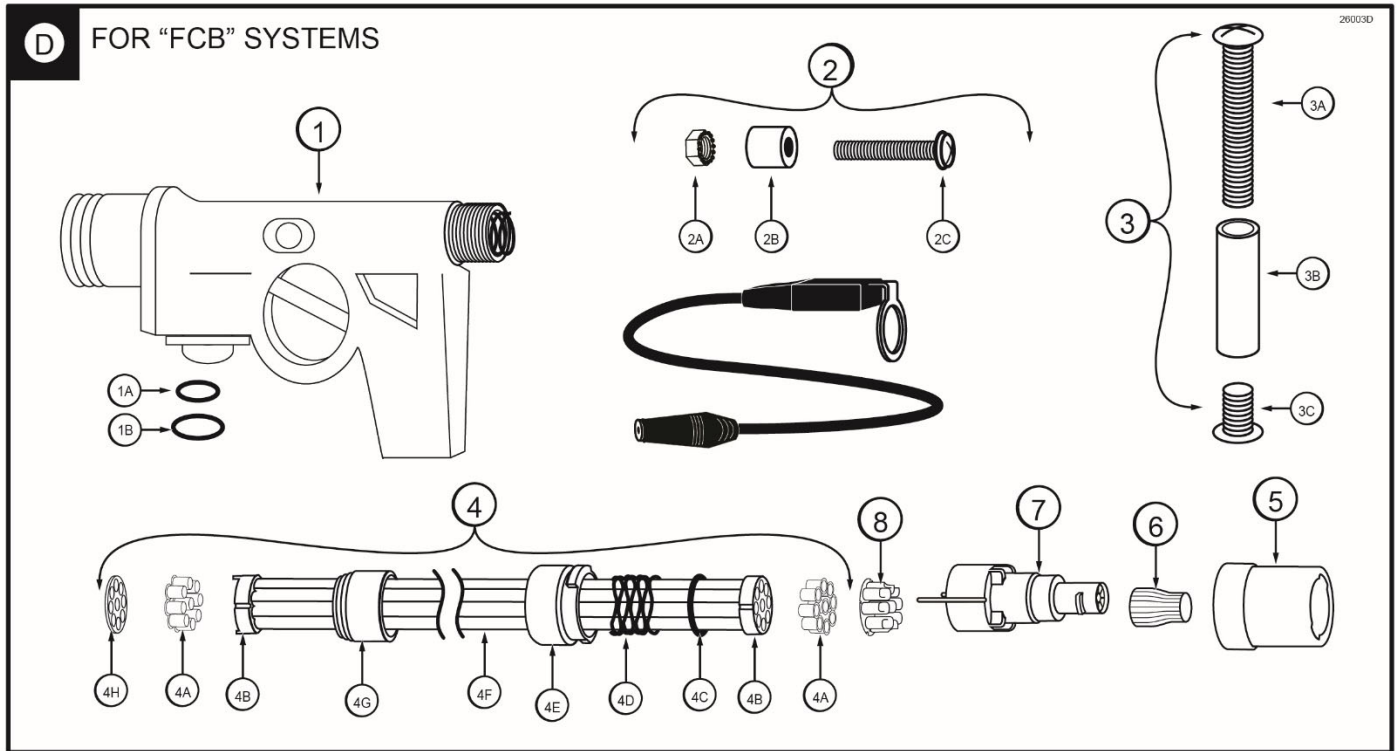

Figure 3D
**“FCB” Door Spout Assembly and Related Parts (See Figure 3D)**